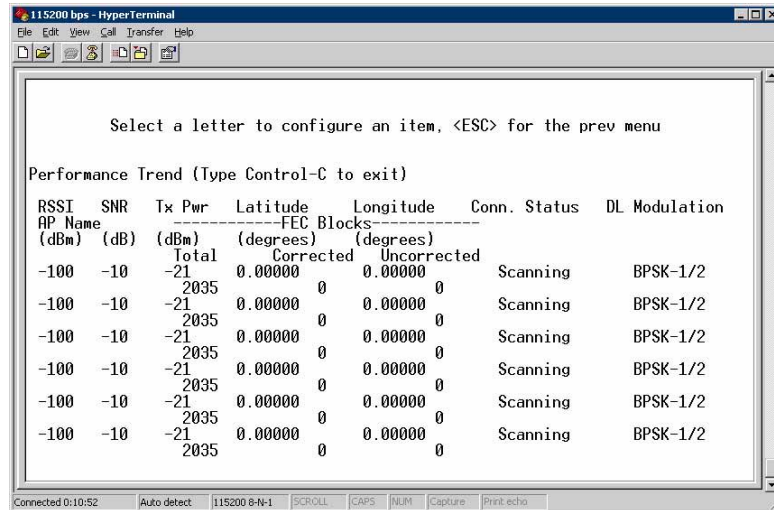

Figure 3-72. Performance Trend Screen
- ¥ **Performance Trend (Remote Only)** □ Launches a continuously updated list of performance parameters (RSSI, Signal-to-Noise Ratio, Transmit Power, Latitude, Longitude, Connection Status, and FEC Blocks). (See Figure 3-72 on Page 103.)